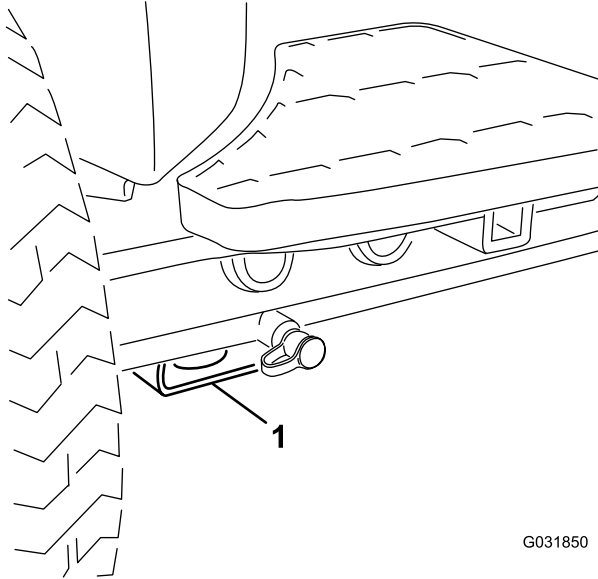

Figure 46
- **Front of the machine**—rectangular pad, under the axle tube, inside each front tire (Figure 46).